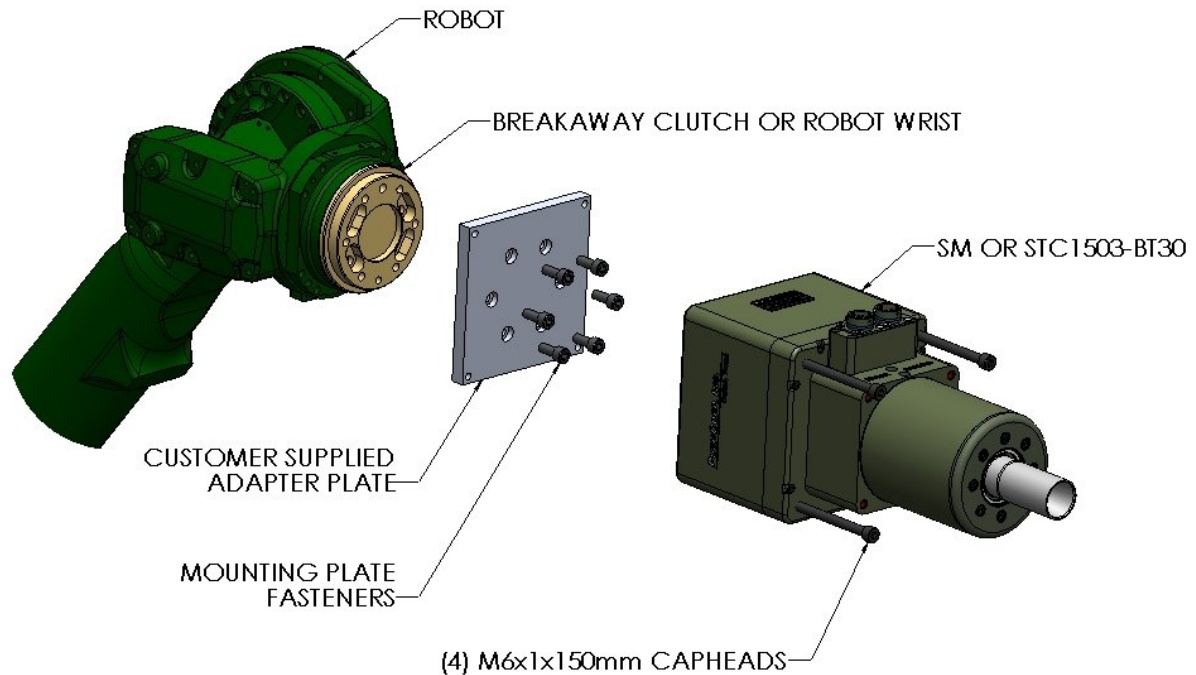

Figure 3. Spindle Motor Direct Mounting
To mount the motor, first attach the customer supplied Mounting Plate to the Robot Mounting Flange or to the Breakaway Clutch, per the manufacturer's specifications. Once the Mounting Plate is secured, place the motor against the Mounting Plate and install (4) four, M6x1, Socket Head Cap Screws (length is dependent on motor SMxxxx = 25mm, STCxxxx-BT30 = 145mm). (See Figure 3.) Tighten the fasteners to the torque specified in Section 4.0.